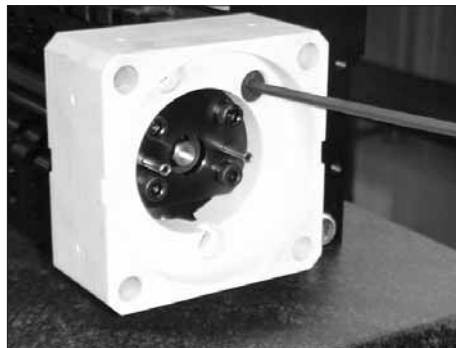

Figure 7-39 Installing the drive adapter
12. See Figure 7-39. Using an M4 hex wrench, install the drive adapter (three shoulder bolts).